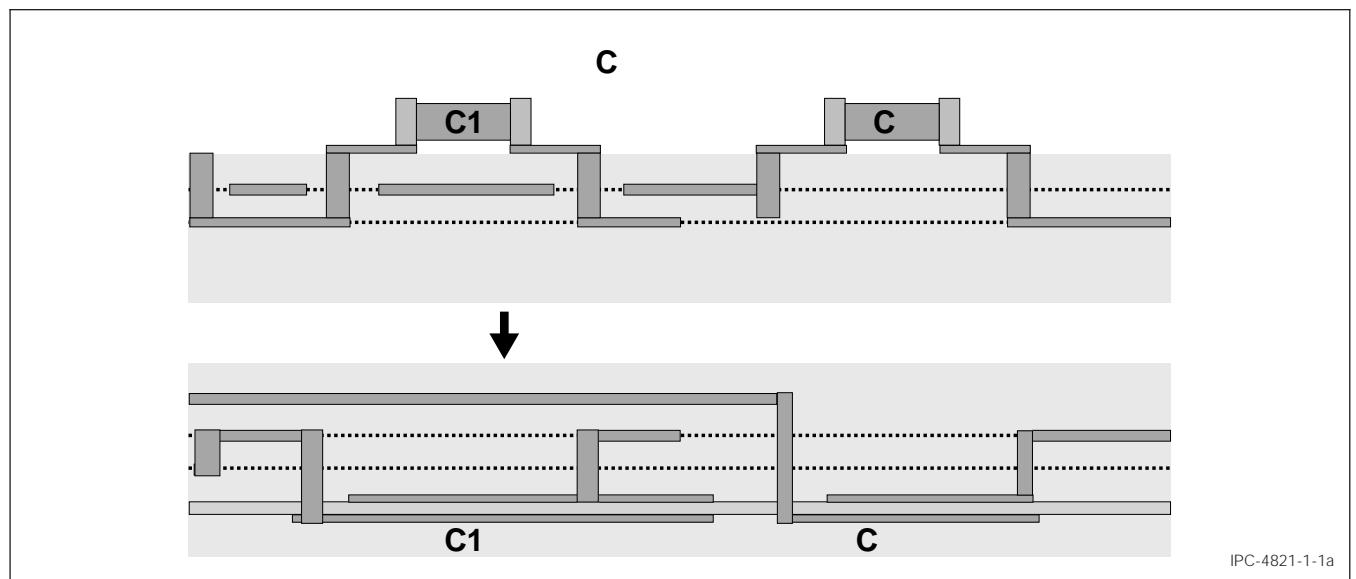

Figure 1-1a Embedded Planar Capacitor Saves Valuable Surface Real Estate
1.1 General This document covers the requirements for dielectric, conductive, and insulating materials that are used with materials for the manufacture of printed circuit boards containing embedded passive capacitor functionality. Figures 1-1a & 1-1b show representations of how embedded passives may appear in a PWB.